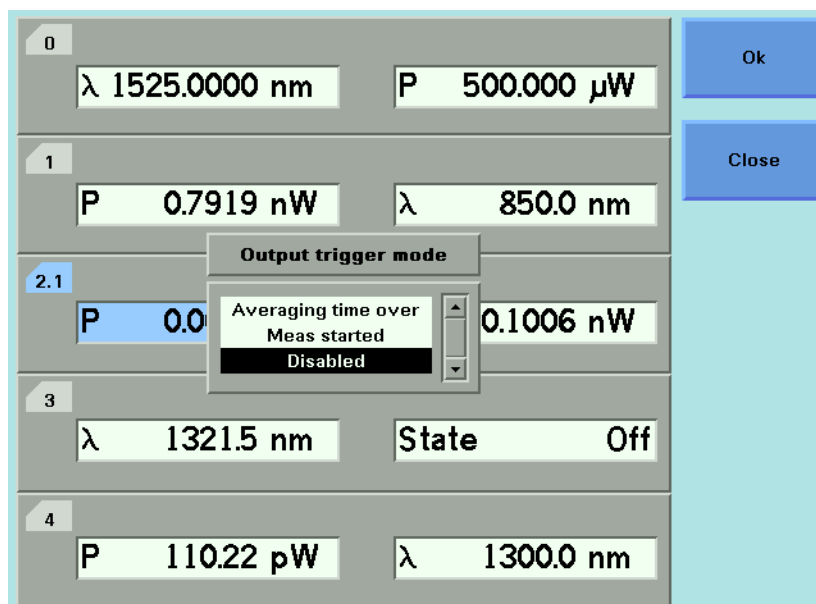

Figure 57 Output Trigger Mode
- 3 Move to *<Output Trigger Mode>*, by using the cursor key, and press *Enter*. You will see the screen in Figure 57 .